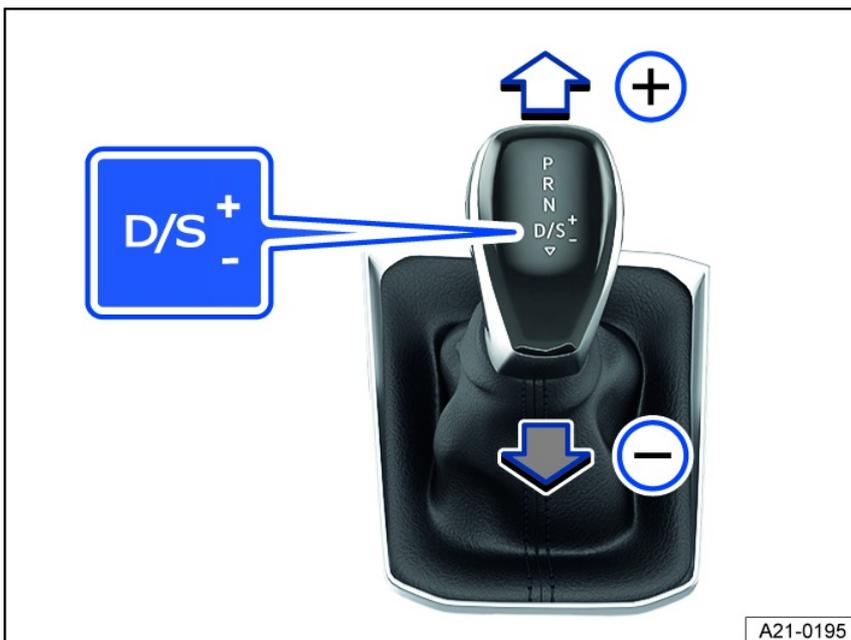

Fig. 118 Selector lever in Tiptronic position.
2. Tap the selector lever forward **+** or to the rear **-** to upshift or downshift *fig. 118*.